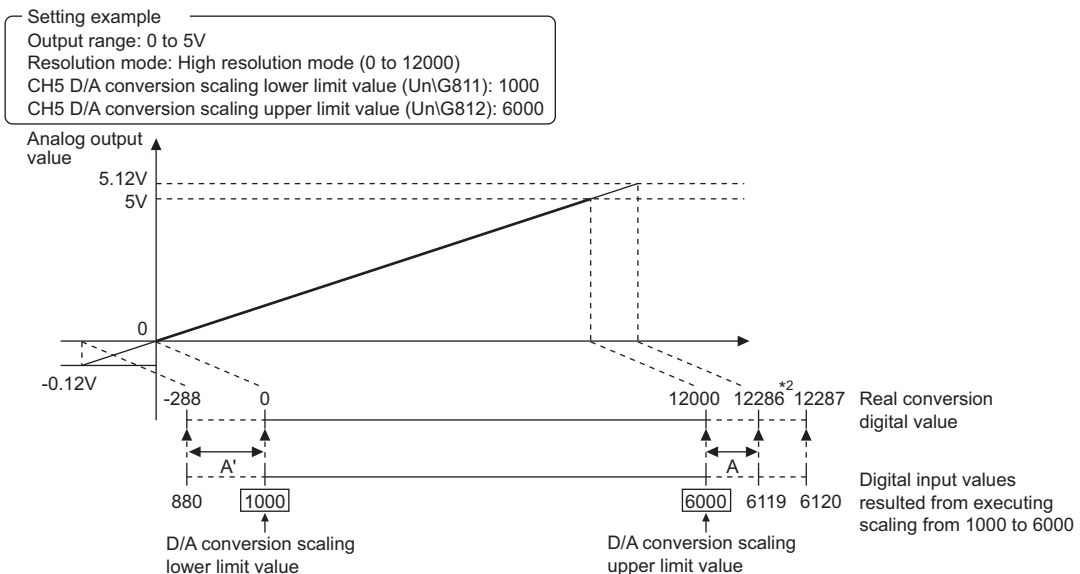

Figure 4.16 Settable range of digital input values
A and A' depends on a resolution mode, output range, D/A conversion scaling upper limit value, and D/A conversion scaling lower limit value. (Refer to Figure 4.16.)
As indicated in the formula of (4) in this section or Figure 4.16, the value exceeding the D/A conversion scaling upper limit or the value that falls below the D/A conversion lower limit can be set for a digital input value. However, the analog output value corresponding to the real conversion digital value, exceeding the range cannot be ensured.